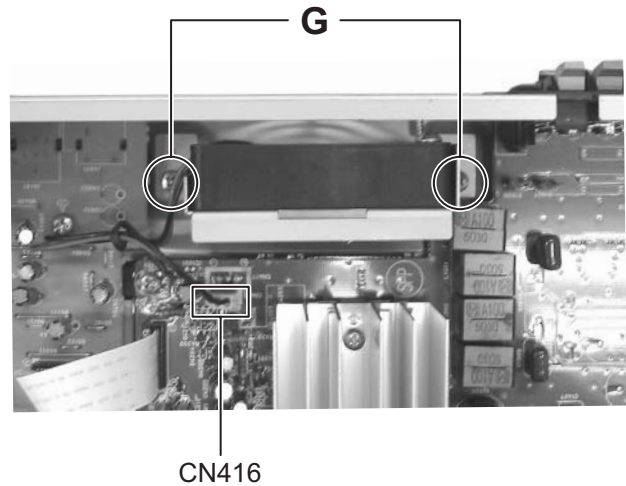

Fig.9
3.1.5 Removing the fan (See Fig.9)